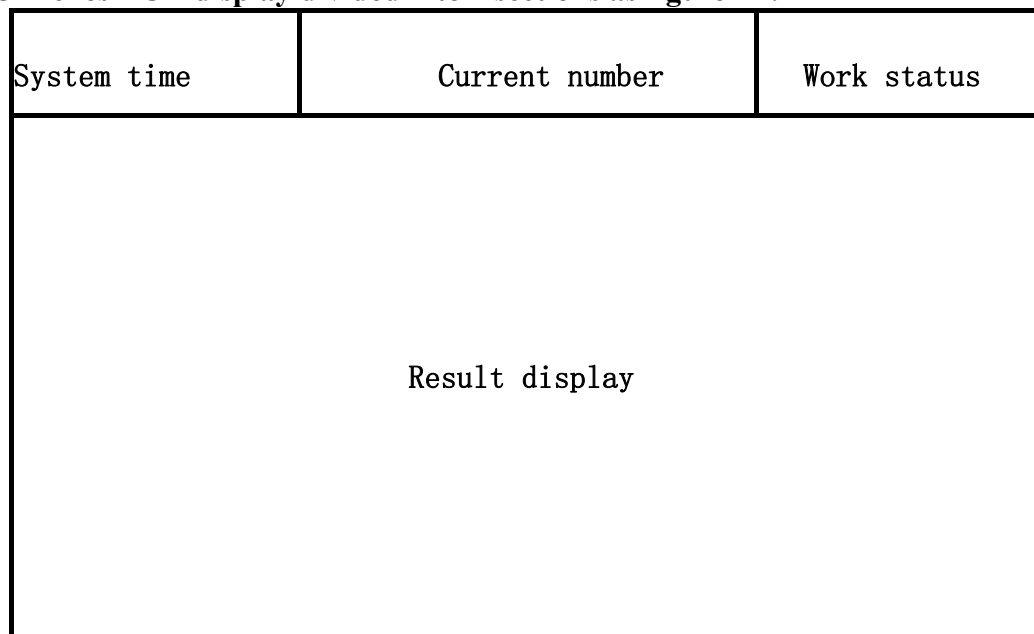

Figure 1-2
5.5 Inches LCD display divided into 4 sections as figure1-2: